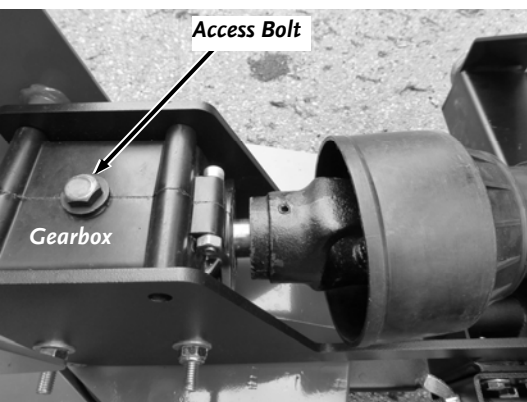

Figure 41
4. Remove the Access Bolt using a 17mm Wrench (Figure 41).